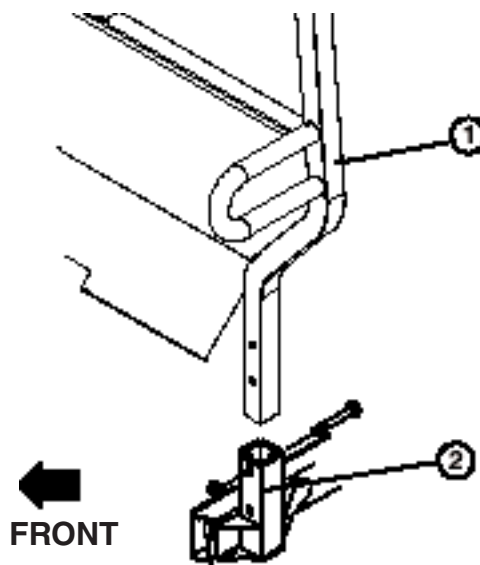

Figure 6
Install the Roll-Over Protection System (Fig. 6)
1. Insert each side of the system into the mounting bracket on each side of the vehicle frame, positioning the protection system as shown in figure 6.